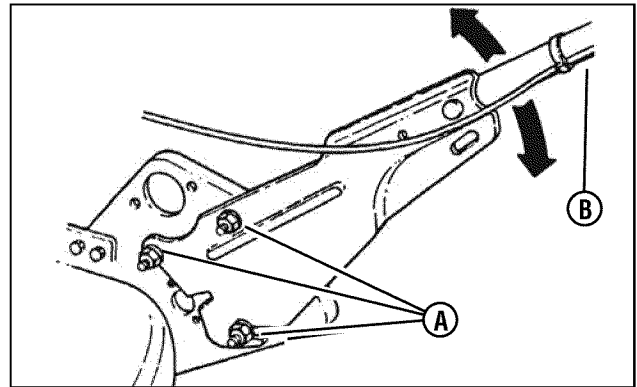

Figure 6: Adjusting the handle height
1. Loosen the lower nuts (**A**, Figure 6) on each lower handle.